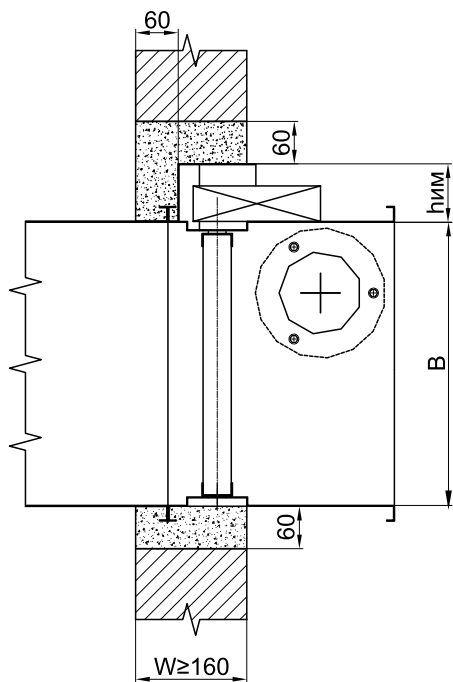
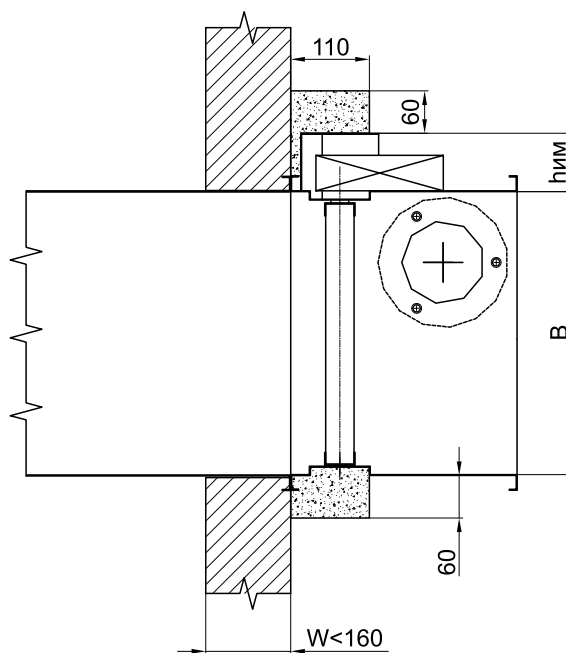
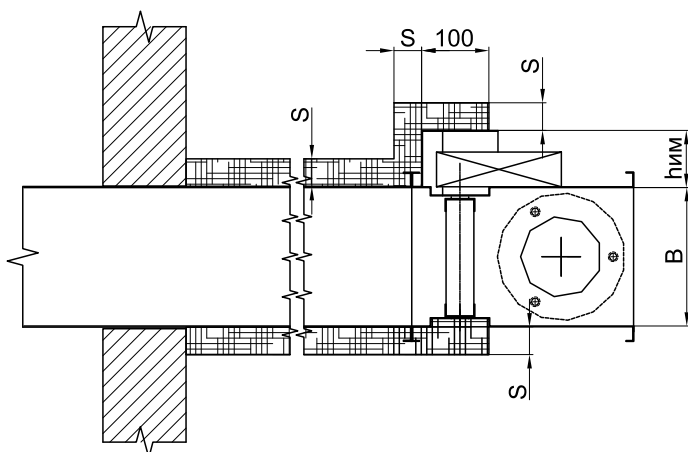

Fig. 3. Installation in fire protection wall
Fig. 4. Installation before fire protection wall
Fig. 5. Installation at remote distance from fire protection wall
- For incorporation into massive walls ($\delta \geq 160$ mm) (fig.3), outside in front of the walls (fig.4) or at remote distance from fire protection walls (fig.5), the air duct from fire protection wall to the fire damper has to be made of proper material.